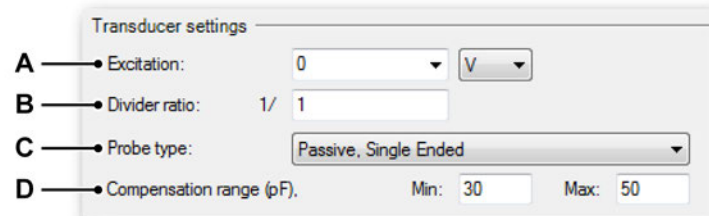

Figure 2.27: Transducer settings/Voltage Probe
- Voltage Probe (see Figure 2.27)
Voltage Probes are intended to measure voltages. When a Voltage Probe is selected, the following settings are shown (see Figure 2.27).